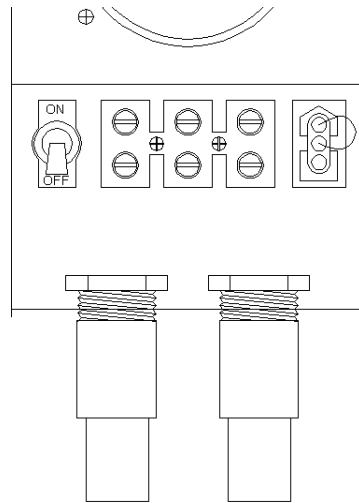
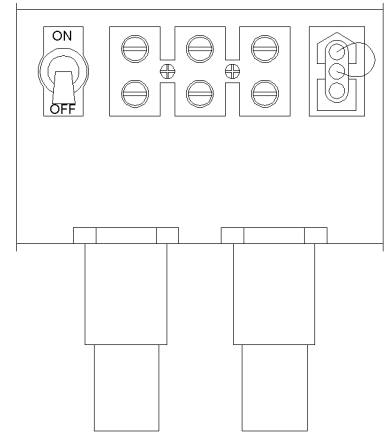

Fig 5
Fig 6
4. Then connected the out long tube, lift the out-tube rotate in a clockwise direction until locked into position.(Fig 5, Fig 6)